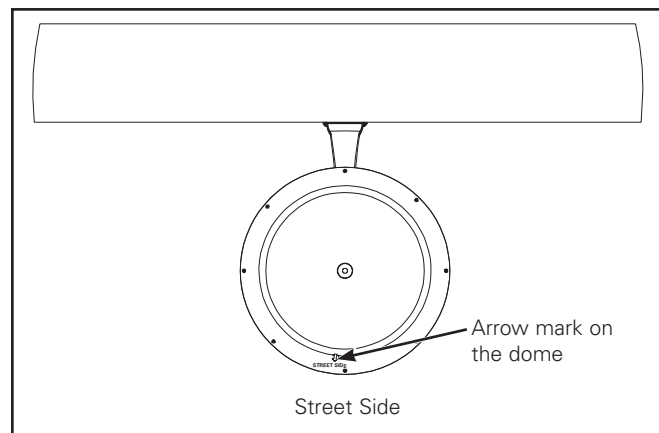

Figure 23.
11. Rotate the fixture in desired position. For luminaire with asymmetric optics, rotate the fixture according to arrow mark on the down towards the street side. (Figure 23.)